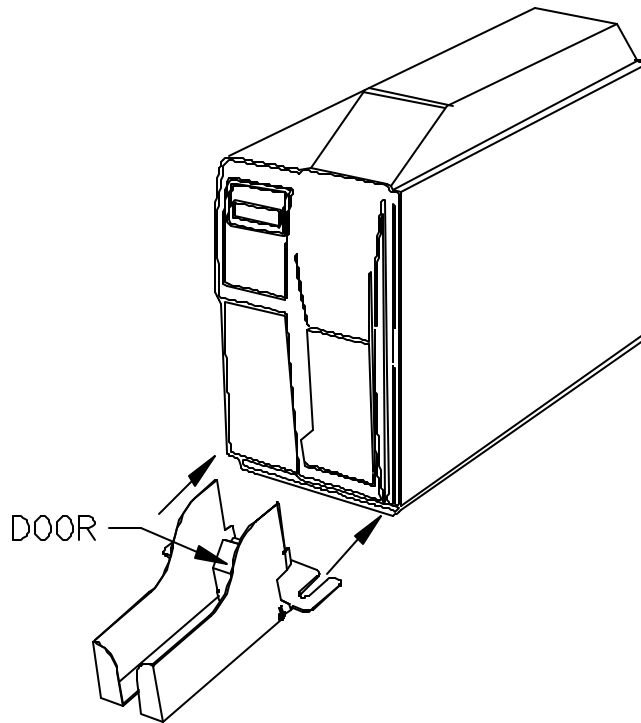

Fig. 6
- 11.** Slide the Expanded Output Bin fully underneath the unit (Fig. 6). *Note : Make sure feet under printer are aligned with the slots on the Output Bin and continue to slide until feet bottom out on slots. 'Squeeze in' the tall sides of metal Output Bin to allow it to fit inside the mouth of the front bezel.*